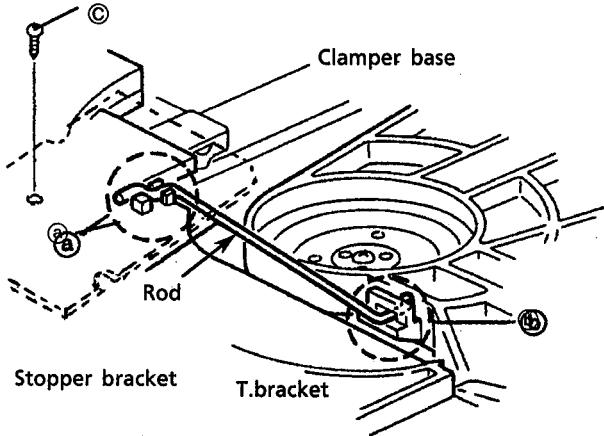

Fig. 27
2. Remove the screw © holding the stopper bracket.(See Fig.27) ---- (U.S.A only)
3. Remove the rod from both ends' hooks which are secured on T.Bracket ® and clamper base®. [See Fig. 27]